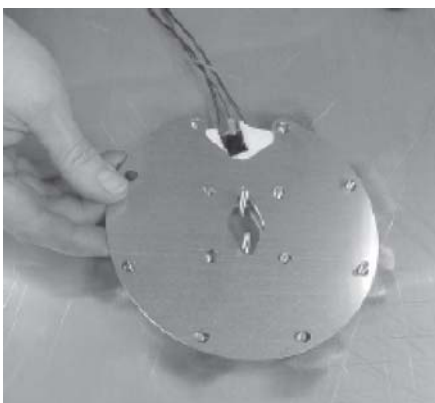

Figure 3-53
11. Place new cover plate from the kit, over the insulation. Figure 3-53.